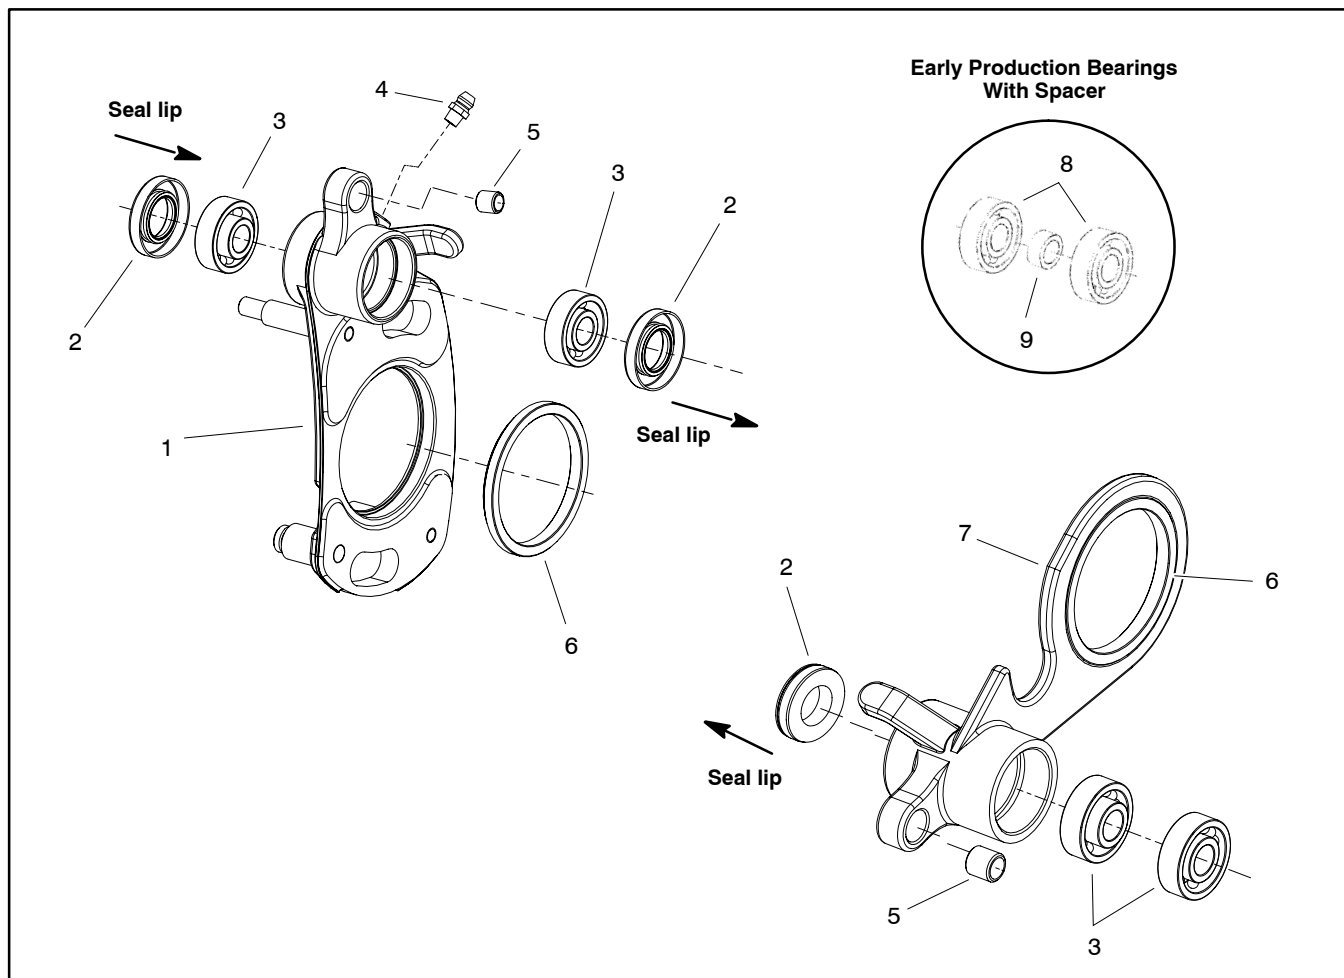

Figure 13
3. Replace bearings in **both** side plate assemblies (Fig. 13):
1. Install new bearings in **both** side plate assemblies (Fig. 13):